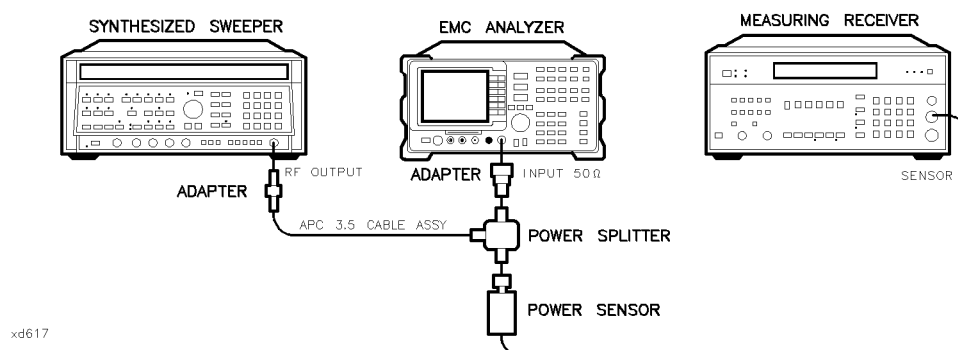

Figure 2-29. Frequency Response Test Setup, ≥ 50 MHz, HP 8595EM
2. Connect the equipment as shown in Figure 2-29.